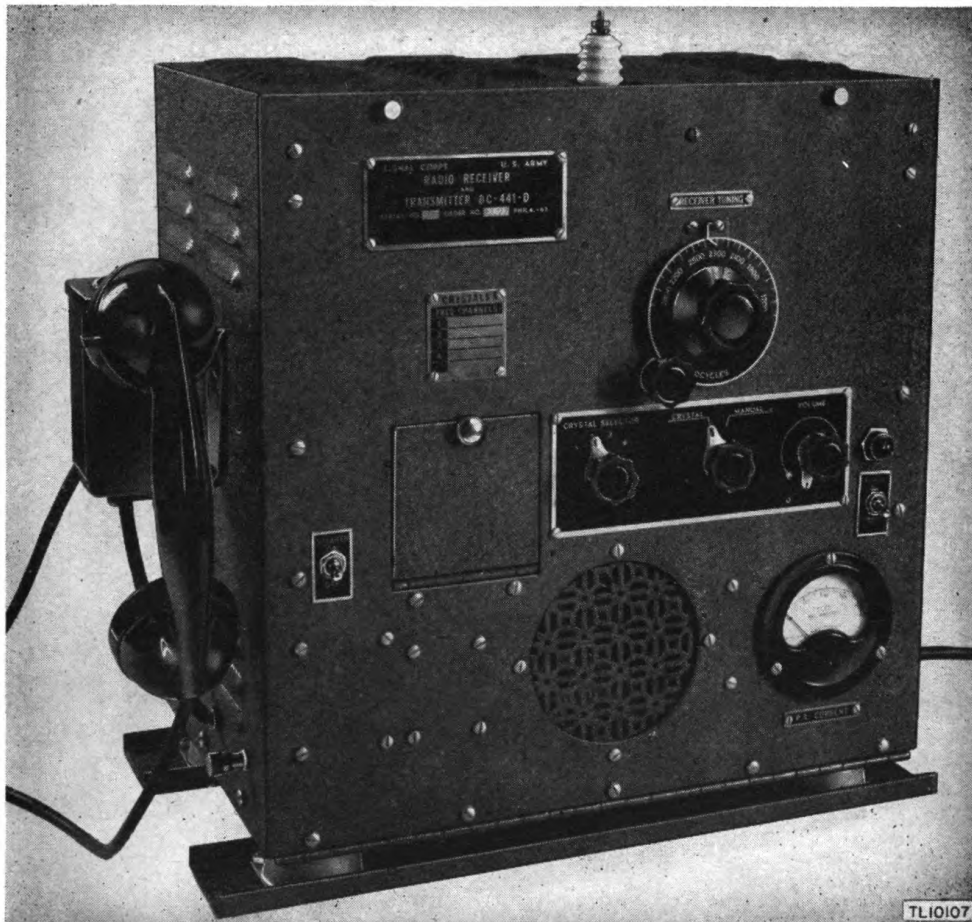

Figure 1. Radio Receiver and Transmitter BC-441-().*
a. GENERAL. The basic component of Radio Set SCR-281-(*) is Radio Receiver and Transmitter BC-441-(*) (fig. 1). The receiver uses a conventional superheterodyne circuit. The receiver can be operated